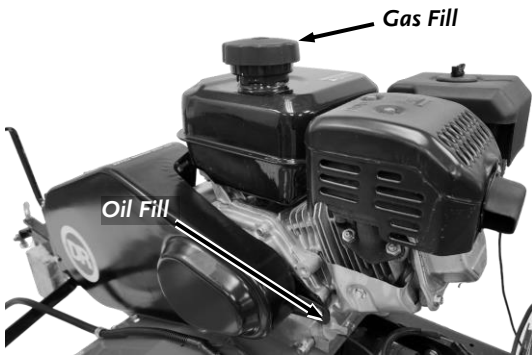

Figure 7
1. Place the machine on a level surface and remove the Oil Fill/Dipstick (**Figure 7**).
2. Check the Engine Oil level every time you use the machine (**Figure 7**).